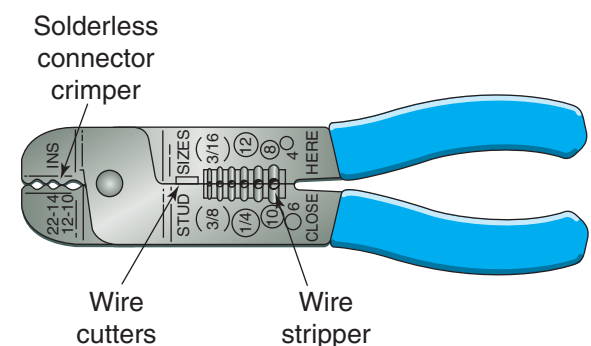

Figure 3-27 Wire stripper/crimper pliers, also known as electrical pliers.
- **Wire stripper/crimper pliers.** Commonly referred to as electrical pliers (Figure 3-27), these are used to remove insulation from wire and install crimp-type electrical connectors.